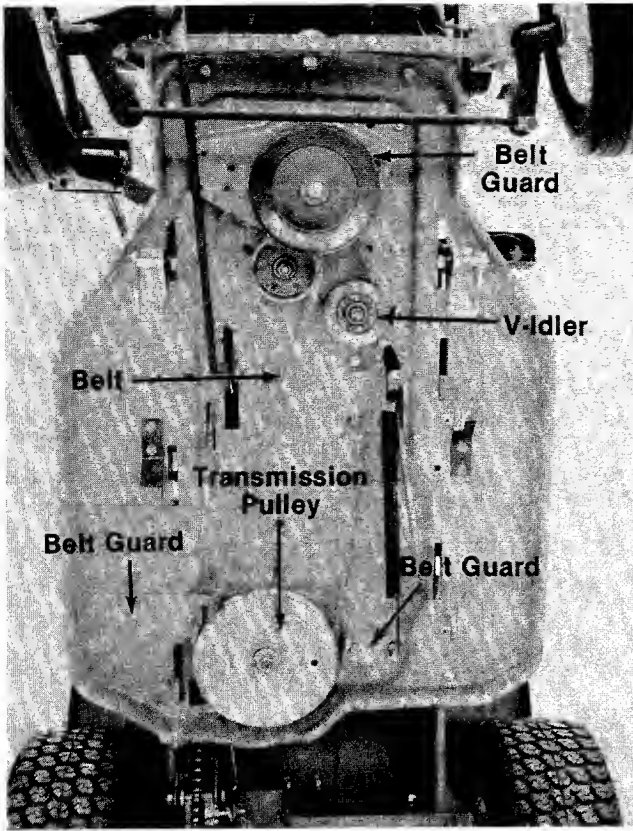

FIGURE 25.
6. Remove the six pins holding the deck to the frame. See figure 25.
TRANSMISSION BELT (See figure 25)